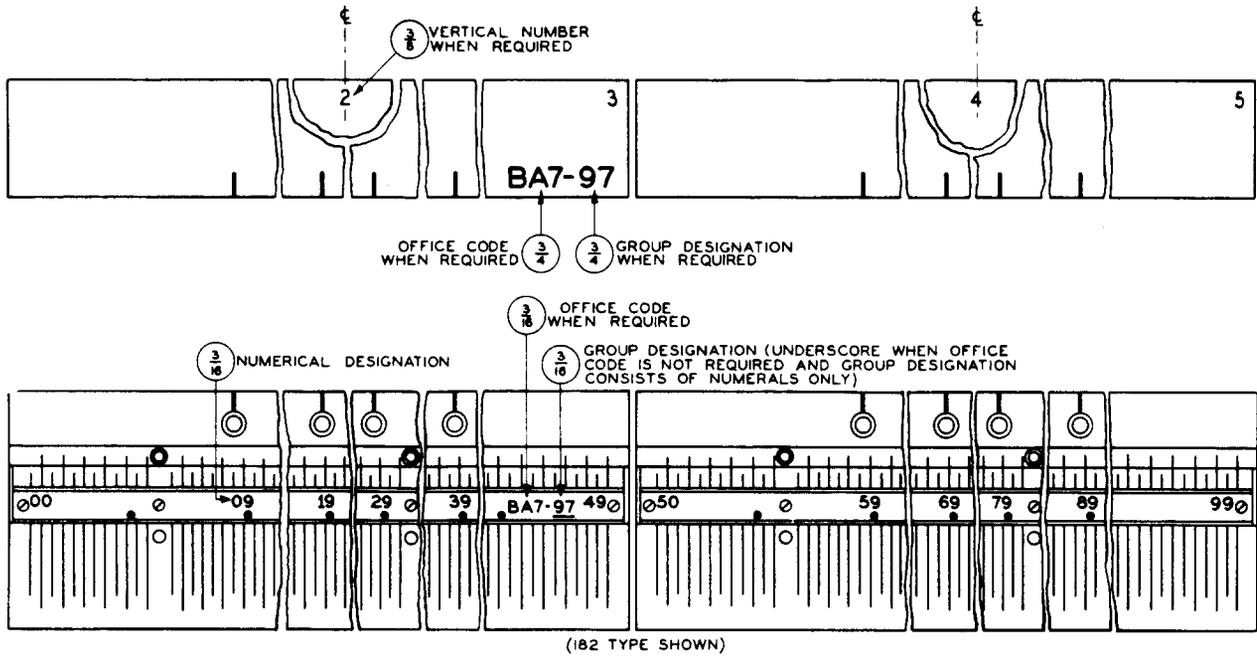
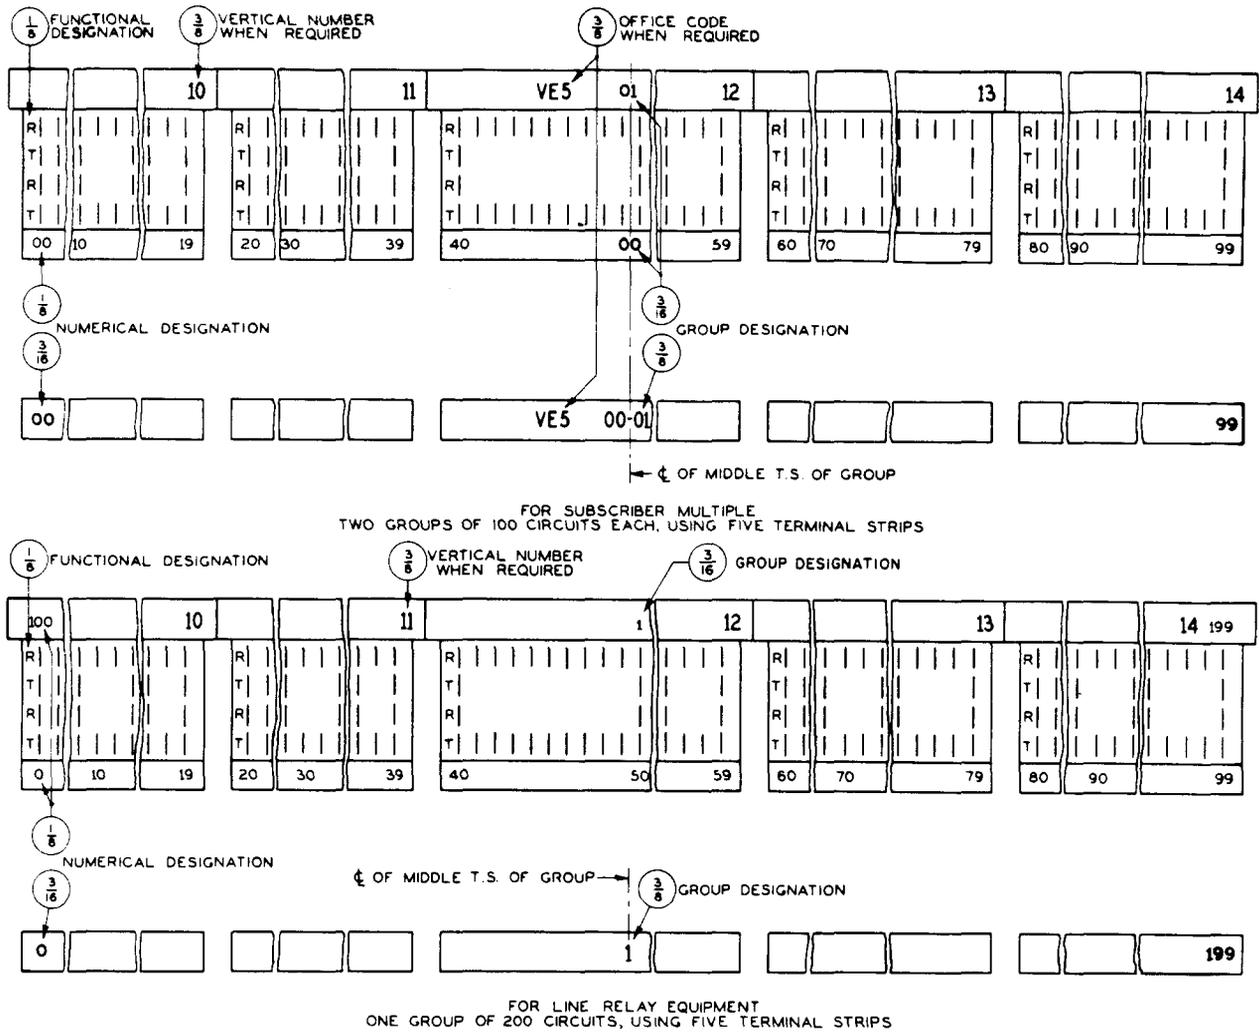

Fig. 11 - Terminal Strips - 65, 182, and Similar Types - Subscriber Lines - Panel, Step by Step, PBX, and No. 1 Crossbar MDF
Fig. 13 — Terminal Strips — 231 and Similar Types — Subscriber Lines — Panel and No. 1 Crossbar MDF
(1) **When subscriber multiple terminates on HMDF,** stamp the group designation (hundred number), preceded (in multiunit offices) by the office code, on the face of the terminal strip clamping strip in the middle of each group of 100 lines. Typical designations (with office code): BA7-00, BA7-01, etc, to BA7-99. (See Fig. 11, 12, and 13.) Also, on main distributing frames only, stamp similar designations (office code only in case of Fig. 13 which requires group designations on the side of all sets of terminal strips) on the top edge of the terminal strip fanning strip in the center of each group of 100 lines, on the bottom shelf, and on the first shelf above the mezzanine platform (when furnished).
(2) **When line relay equipment terminates on HMDF,** stamp the group designation (line relay bay number 1, 2, etc) on the face of the terminal strip clamping strip for each group of 100 line relays (0-99, 100-199, 200-299, 300-399). (See Fig. 11, 12, and 13.) Also stamp the line relay bay number on the top edge of the terminal strip fanning strip in the middle of each group of 100 lines, on the bottom shelf, and on the first shelf above the mezzanine platform (when furnished).
by the office code, on the face of the terminal strip clamping strip in the middle of each group of 100 lines. Also, on main distributing frames only, stamp applicable hundred number with office code (in multi-unit offices) on the top edge of the terminal strip fanning strip in the middle of each group on the bottom shelf. (See Fig. 11.) Typical designations (with office code):
(2) **On terminal strips for line relay equipment**, stamp the group designation (line relay group number G1, G2, etc) on the face of the terminal strip clamping strip in the middle of each group of 100 line relays (0-99 and 100-199). Also, on main distributing frames only, stamp applicable line relay group number on the top edge of the terminal strip fanning strip in the middle of each group on the bottom shelf. (See Fig. 11.)
(d) **No. 1 Crossbar**: Stamp the group designation (line link column number 00, 01, etc, 100, 101, etc) on the face of the terminal strip clamping strip and on the top edge of the terminal strip fanning strip in the middle of each group of 100 lines, except that when a mezzanine platform is furnished, stamping of the group designation on the fanning strip shall be omitted on the ninth shelf from the floor. (When 231-type terminal strips are used, group designations are required on the top for all groups as shown in Fig. 13.) Also, on the top edge of the fanning strips, stamp the office code (two codes where all line link column numbers are common to two offices) with the column numbers of the first, fourth, seventh, etc, and last groups of terminals 100 lines wide, on the fourth shelf above the floor and on the fourth shelf above the mezzanine platform (when furnished). When some of the line link column numbers are associated with one office code only and others with two codes,
stamp the office code or codes with each column number. (See Fig. 11, 12, and 13.)